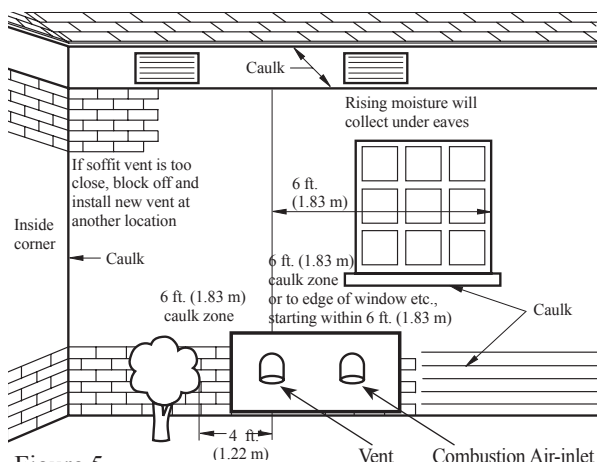

Figure 5
- 3 When terminating the vent and combustion air-inlet pipes through brick or masonry surfaces, the installation of a rust-resistant sheet metal backing plates behind the vent and combustion air-inlet terminals are recommended. See Figure 5.